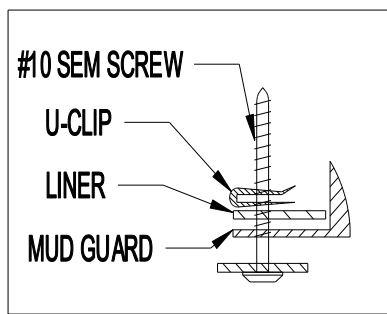

Figure 2
5. Install a #10 SEM Screw thru the mud guard and into the U-Clip placed on the backside of the fender liner at location C. NOTE: DO NOT clip the u-clip over the fender liner (Figure 2).